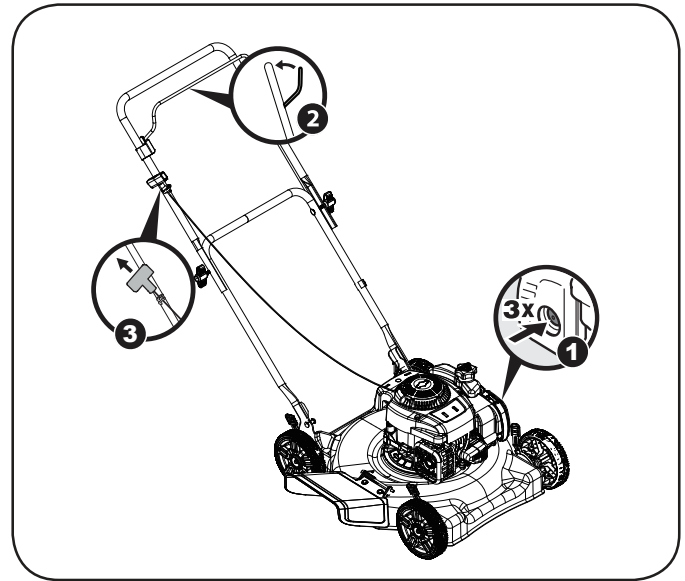

Figure 9
3. While holding the blade control against the upper handle, Keep a firm grip on the starter handle and pull rope out with a rapid, continuous, full arm stroke. Repeat until engine starts. Let the rope rewind each time slowly (Figure 9).